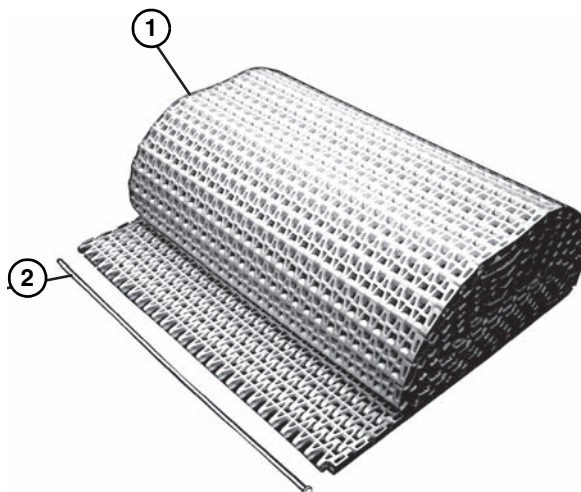

**Figure 9**
2. Attach stands (**Figure 9, item 1**) to the bottom of the conveyor frame (**Figure 9, item 2**). Tighten socket head screws (**Figure 9, item 3**), on each side, to secure in place.